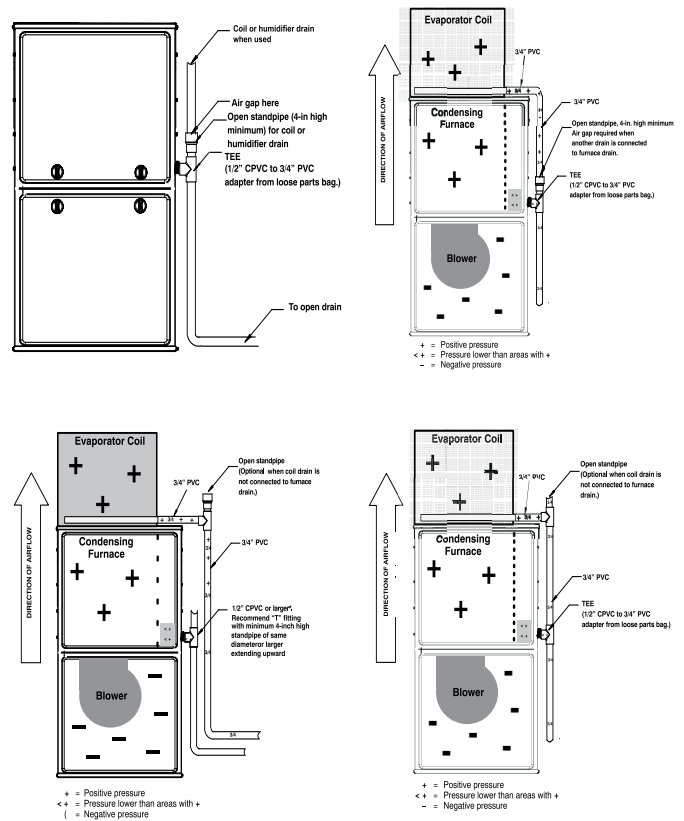

Fig. 11 – Example of Field Drain Attachment
A field-supplied, accessory Horizontal Installation kit (trap grommet) is required for all direct-vent horizontal installations (only). The kit contains a rubber casing grommet designed to seal between the furnace casing and the condensate trap, see Fig. 11.
- All condensate piping is at least 3/4-in. PVC and there is a relief tee at the top of condensate drain piping as shown in Fig. 11.